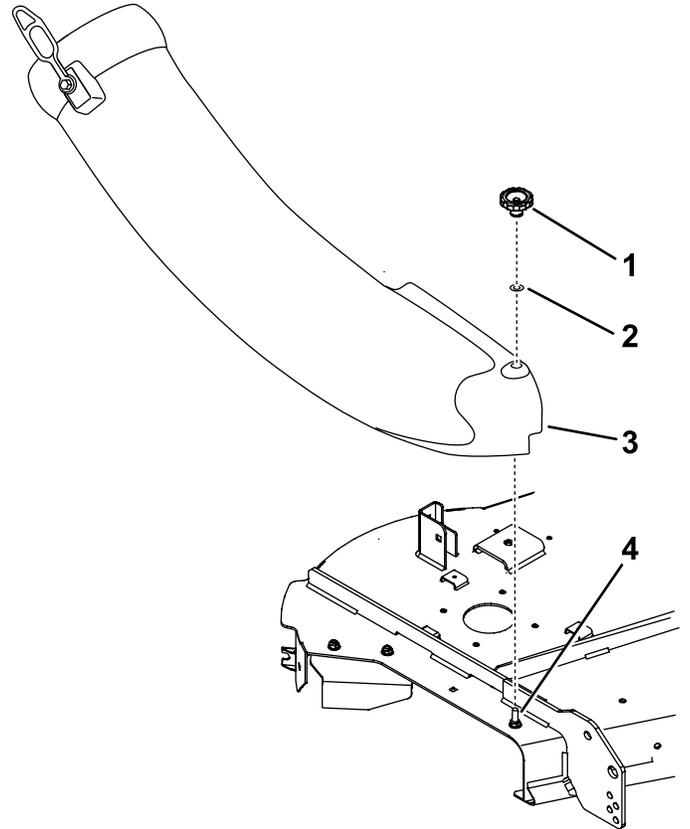

**Figure 23**
2. Install the existing baffle with the existing bolts and nuts after removing the plate assembly (Figure 23).
3. Install a carriage bolt and flange nut into the front hole shown in Figure 23.